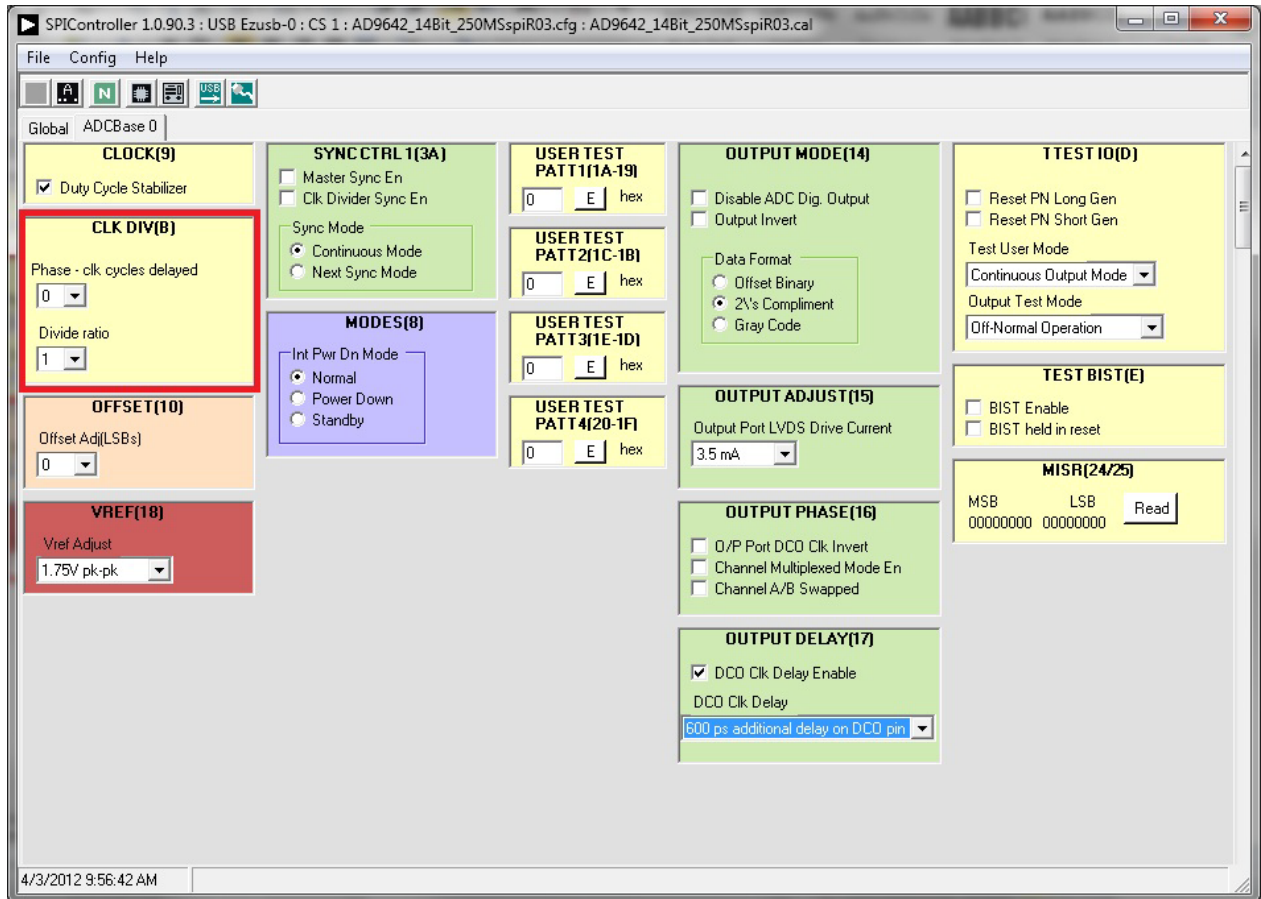

Figure 11. SPI Controller, CLK DIV(B) Section
- In the **ADCBASE 0** tab of the **SPIController** window, find the **CLK DIV(B)** section (see Figure 11). If using the clock divider, use the drop-down box to select the correct clock divide ratio, if necessary. See the appropriate part data sheet; the AN-878 Application Note, High Speed ADC SPI Control Software; and the AN-877 Application Note, Interfacing to High Speed ADCs via SPI, for additional information.
Note that other settings can be changed on the **ADCBASE 0** tab (see Figure 11). See the appropriate part data sheet; the AN-878 Application Note, High Speed ADC SPI Control Software; and the AN-877 Application Note, Interfacing to High Speed ADCs via SPI, for additional information on the available settings.